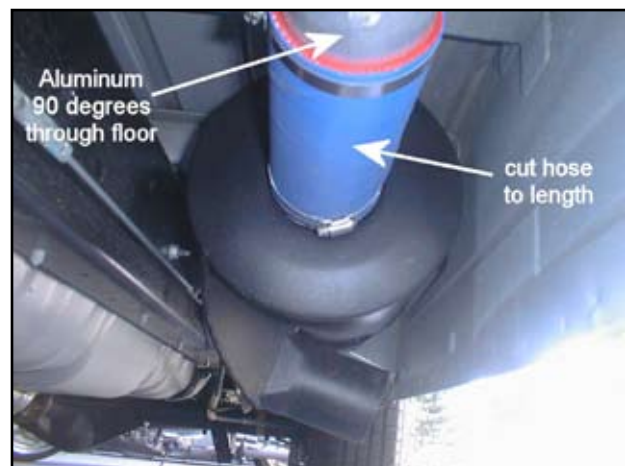

Figure 21. Install External Silencer
8. Install external silencer under the van (Figure 21). Depending on the van model, the silencer may span the "rib" of the floor or bolt directly to the van floor.